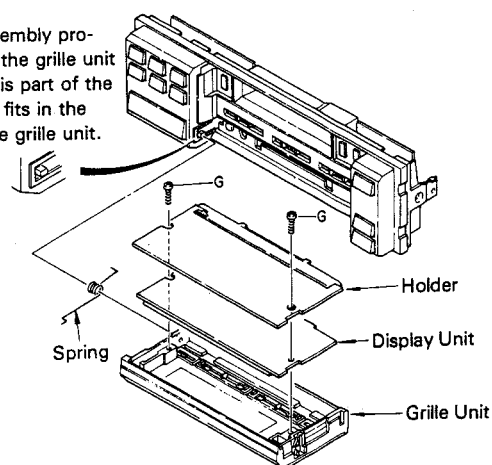

Fig. 7
2. The display unit can be removed as shown in Fig. 7.